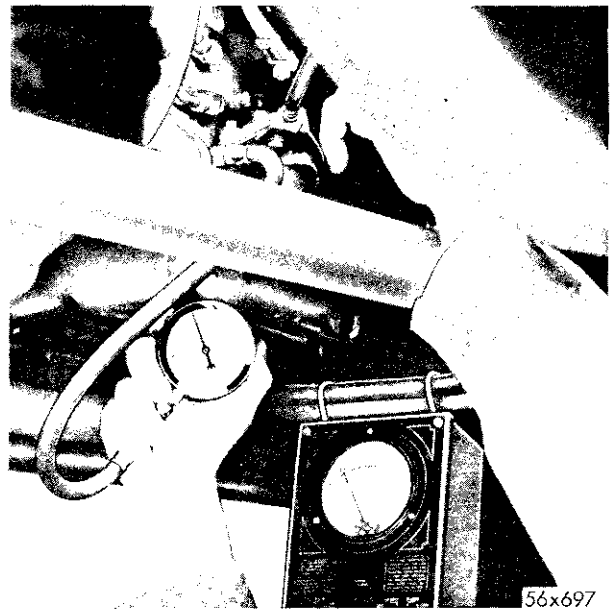

Fig. 17—Checking Line Pressure
(1) Remove the pipe plug from the line pressure take-off hole located on the left side of the transmission case (Fig. 1). Install the gauge, Tool C-2393 (300 psi), at this point (Fig. 17).